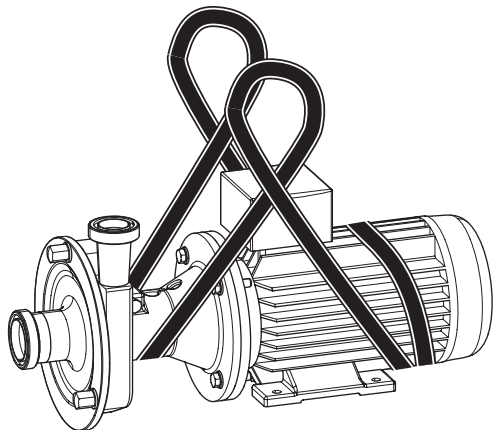

Fig. 13 Moving with round sling illustrated using the FSPE
1. Wrap the round sling twice around the back end of the motor. Do not lay over the fan shroud. See Fig. 13 "Moving with round sling illustrated using the FSPE".